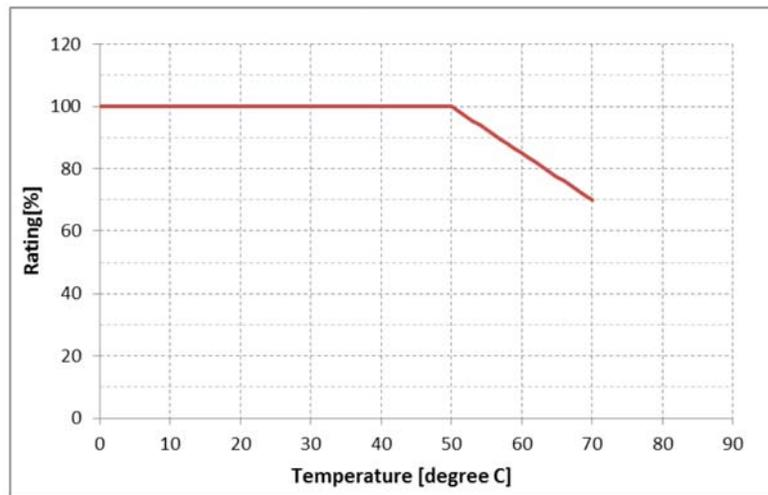

Figure 2: VFD68Bxx, VFD68Cxx, and VFD68Dxx Maximum Current Output Derating above 50°C
1. Surrounding air temperature is a temperature measured at a measurement position in an enclosure. Ambient air temperature is a temperature outside an enclosure. The VFD68 is designed to operate above 50°C by following the maximum output current derating limits show in Table 4 and Table 5 and Figure 2.